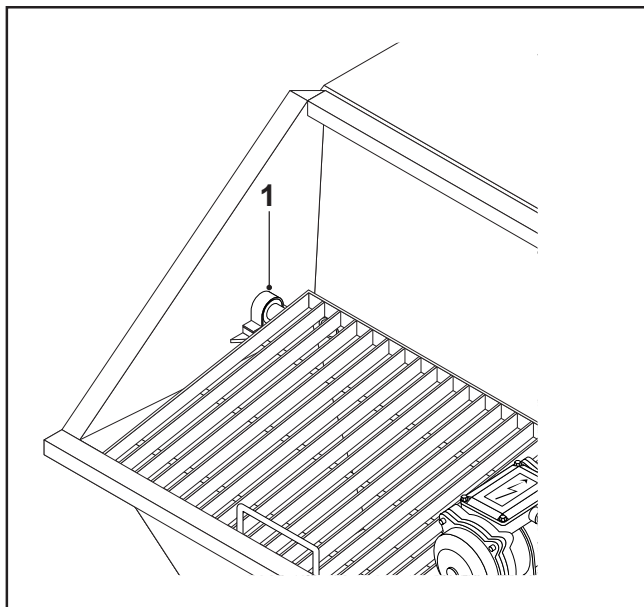

FIG.21
- Unscrew the shock absorber's anchoring bolts (FIG. 21.REF. 1).